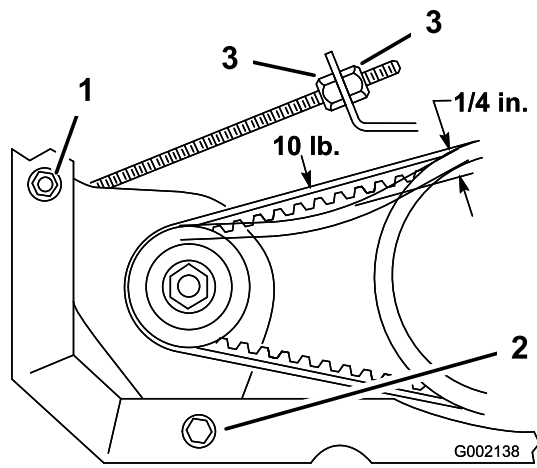

Figure 53
- Loosen the starter generator pivot bolt (Figure 53).
3. Wedge a pry bar between the engine mount and starter. Loosen the nut on the adjusting carriage bolt (Figure 53).
5. Tighten the carriage bolt nut and remove the pry bar. Tighten the starter generator pivot bolt (Figure 53).